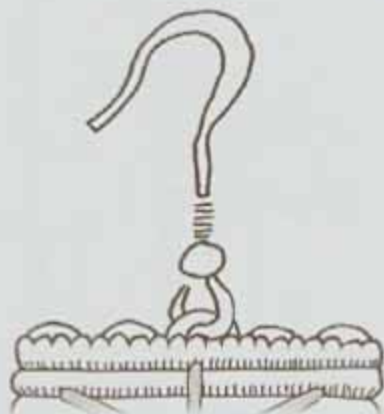

Fig. 16
2. Reopen the cord "loop" at the top center **MTK** of the earring with an embroidery needle. Pass the wire loop through the cord loop, making sure that the tip of the earring wire is facing towards the back (see Figure 16). Close the wire loop with pliers.